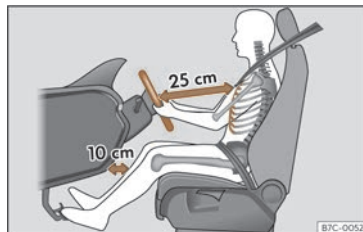

Fig. 17 The correct distance between the driver and the steering wheel must be at least 25 cm (10 inches).
- Adjust the steering wheel so that it is at a distance of at least 25 cm (10 inches) from the sternum >>> Fig. 17 and can hold it with both hands on the sides, on the outside, with the arms slightly flexed.